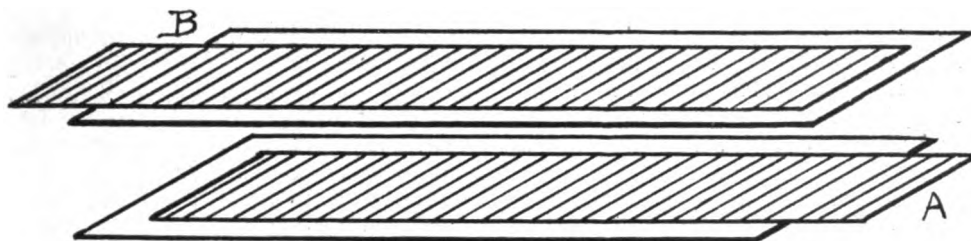

Fig. 51.—Condenser Construction
is illustrated in Fig. 51. Each consists of three strips of paper four inches wide and thirty inches long, and two strips of tinfoil three inches wide and thirty inches long. One paper strip is placed on a table and one of the foil strips is laid upon it, leaving a margin $\frac{1}{2}$ inch wide on the two sides and two inches on one end (A). A second strip of paper is placed on the foil sheet so as to be directly above the first paper strip, and the second foil strip is placed on this as illustrated, but leaving the two-inch margin at the opposite end, B. The third paper strip is now placed on top of the condenser, which is then rolled up and pressed out to make it flat and compact.